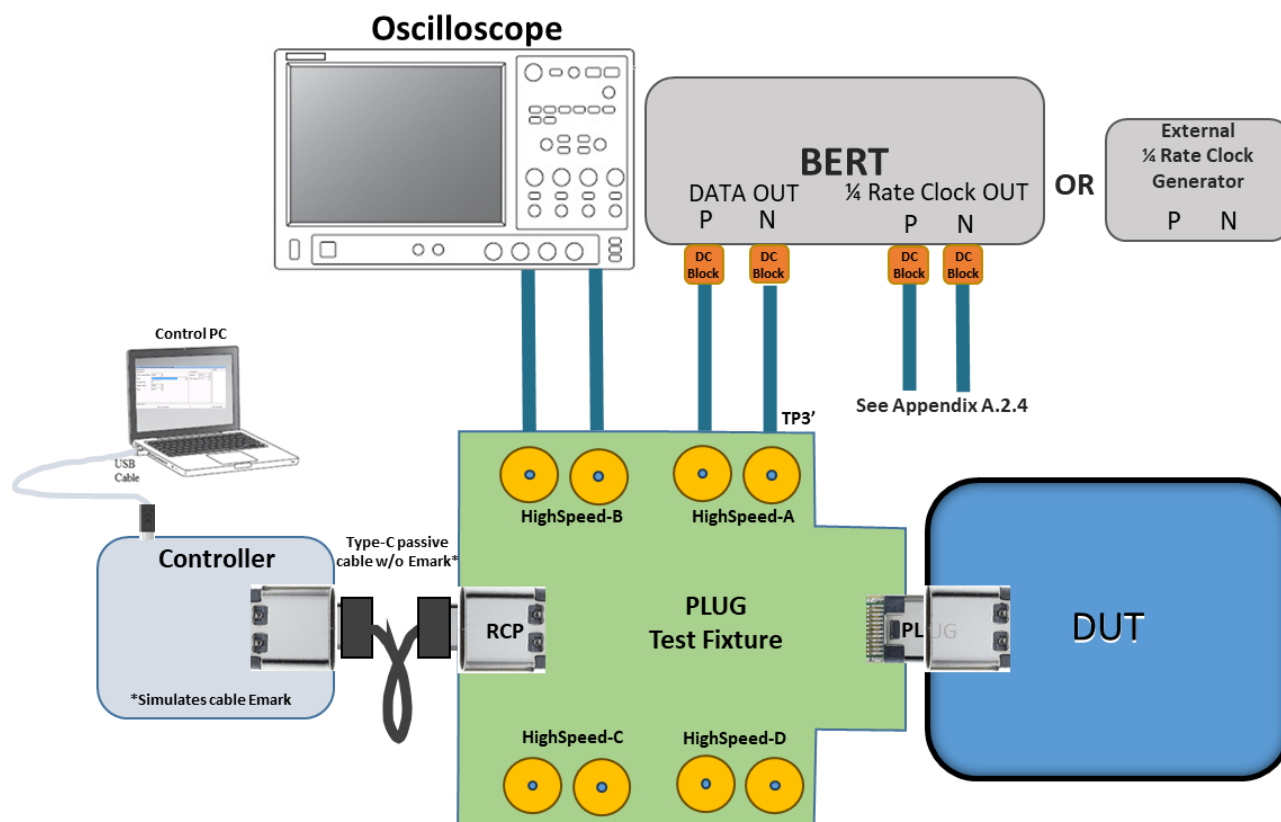

Figure 16. Receiver LFPS Test Setup
Construct setup as shown in Figure 16 below. Use passive cable without Emark to connect USB4 micro-controller to the DUT as shown below. USB4 Micro-controller is connected to Control PC via USB cable, running the latest USB4 SW Electrical Test Tool (ETT)
1. Construct the setup as shown in Figure 16